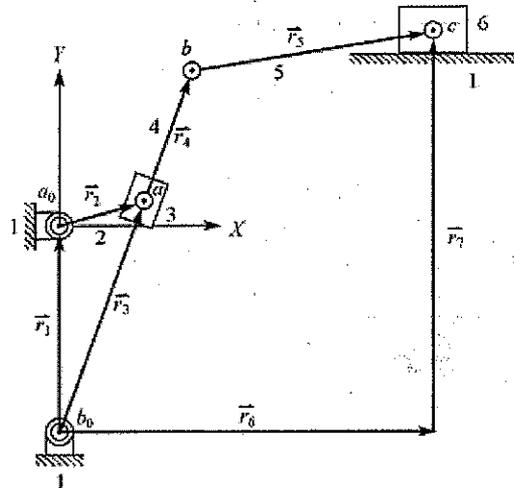

Fig. 4
4. Fig. 4 shows a crank-shaper crank mechanism, where Link 2 is the input. Find the closed form solution for the position of each link by using the vector loop closure approach. (20%)